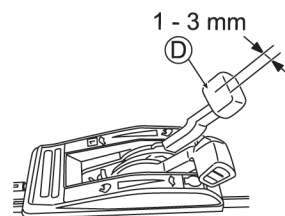

Fig. 26
Adjust the play of Gearshift lever (D) to 1 - 3 mm as shown in Fig. 26.
3. Start the engine and confirm that running speed changes when Gearshift lever (D) is operated.